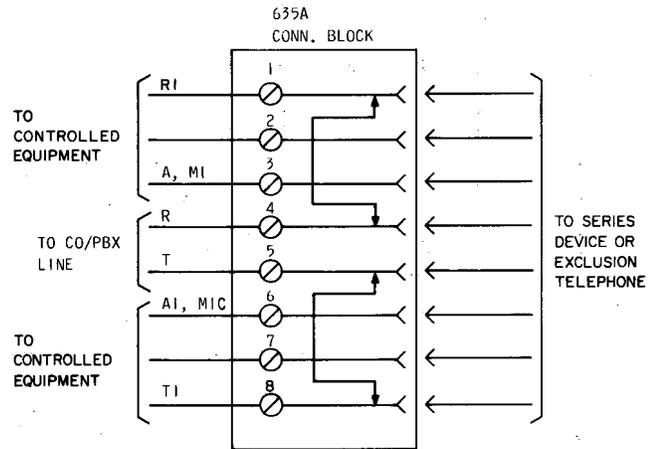

Fig. 15—Schematic Diagram, 635A (MD) Connecting Block
3.13 635A (MD) Connecting Block: Remove the cover from the block by loosening the screw in the center. Mount the block on a suitable vertical surface. Connect the line and control station leads (Fig. 15) to the screw terminals.